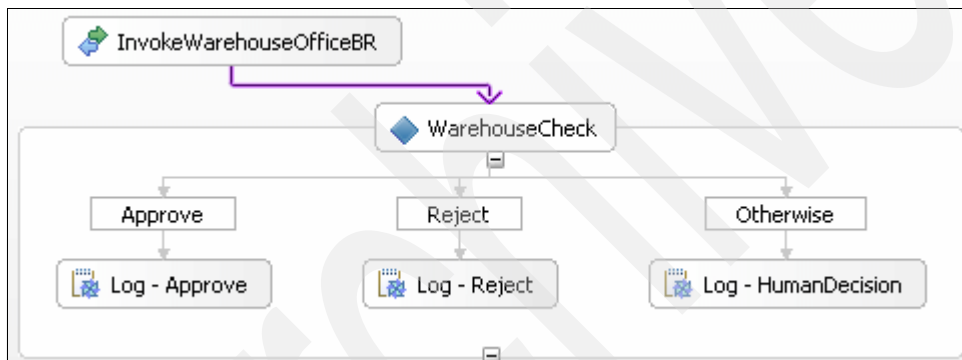

Figure 3-74 Warehouse path
20.Ensure the warehouse path looks as shown in Figure 3-74.